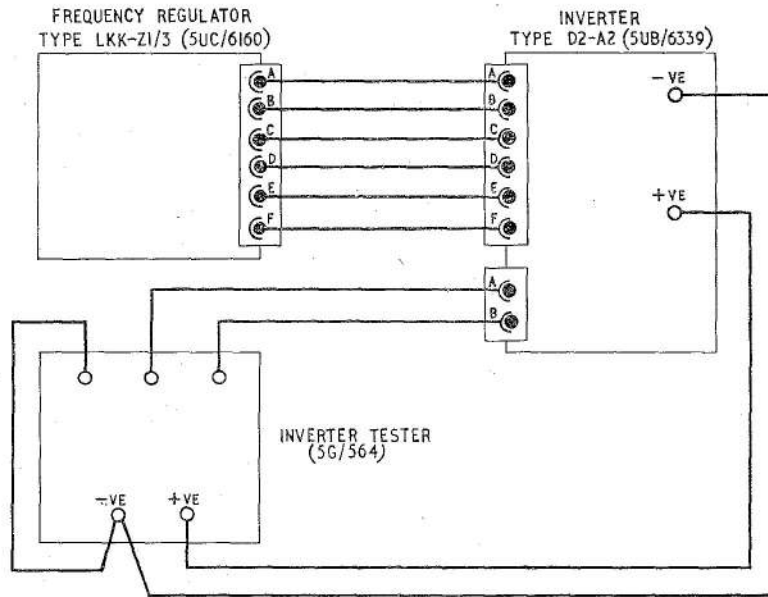

Fig. 1. Test circuit diagram (R.A.F.)
(1) Connect circuit as shown in fig. 1 for R.A.F. use, as shown in fig. 2 for R.N. use. Adjust the supply voltage to 28 volts d.c. and run at full load for 15 mins.
(2) Shut down. Open line B-B to carbon pile. Restart and control machine speed by adjusting supply voltage. Run on full load, adjusting frequency to 400 \pm 1 c/s, output voltage to 115 volts r.m.s. Regulator coil current in line F-F should be 105 \pm $\frac{1}{0}$ mA. Adjust potentiometer R8 in inverter control box, if necessary.